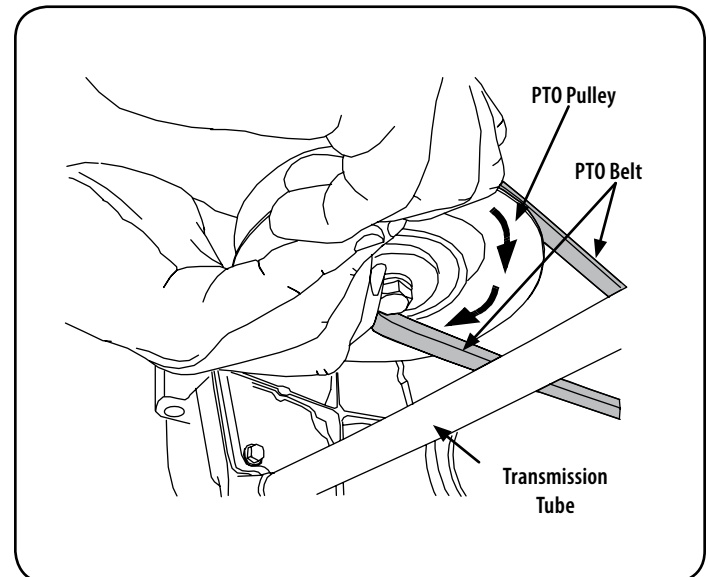

Figure 26
4. While still holding the belt downward, continue turning the PTO pulley until the belt is rolled off the pulley. Refer to Figure 26.
11. Pull the right side of the belt rearward and place the narrow V side of the belt into the PTO pulley. See Figure 26.
12. While holding the belt and pulley together, rotate the pulley to the left (See Figure 26). Continue holding and rotating the pulley and belt until the belt is fully rolled into the PTO pulley.